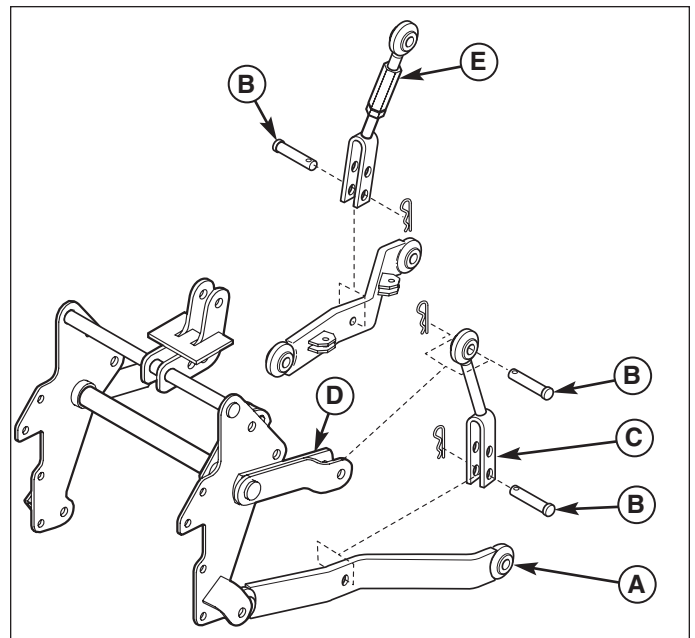

Figure 14. Install Lift Links
4. Attach the adjustable link (E, Figure 14) and lift link assembly (C) using clevis pins (B) and hair pin clips.
NOTE: The adjustable lower lift link (E, Figure 14) goes on the right side.